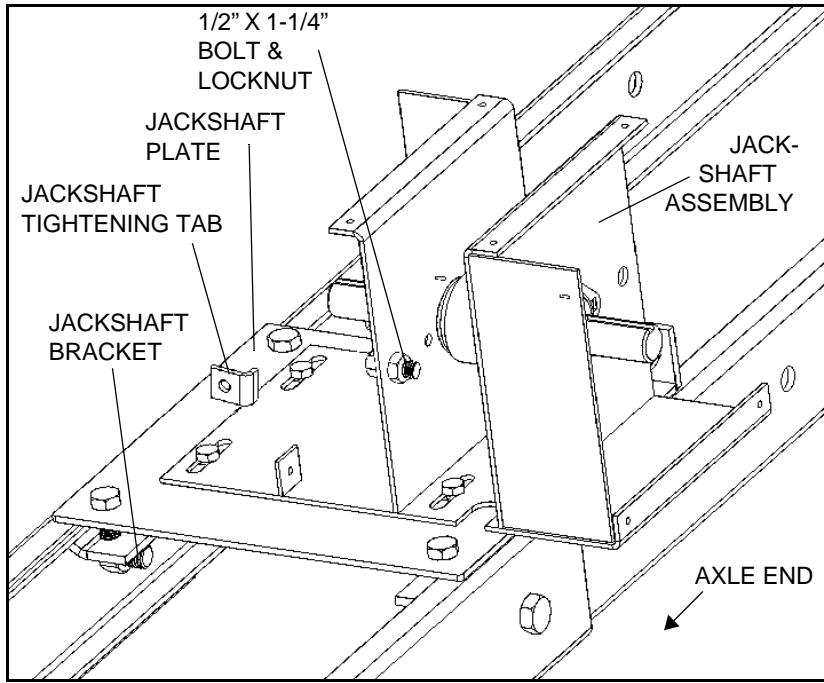

Figure 3.19 Jackshaft Installation
1. Install the jackshaft assembly onto the jackshaft plate with four 3/8" x 1" carriage bolts and locknuts (Figure 3.19).
2. If using a gas engine drive, install 1/2" x 1-1/4" bolt onto jackshaft assembly before installing pulley (Figure 3.19).